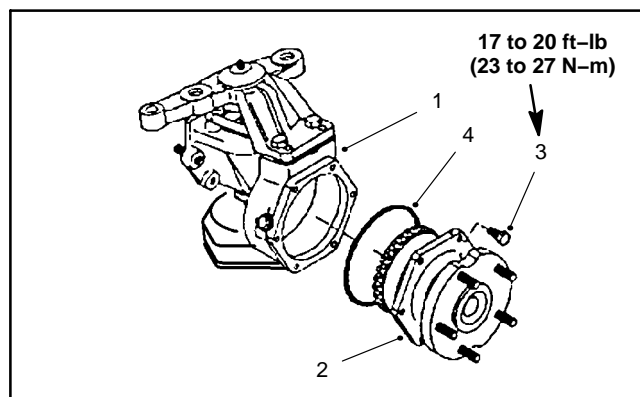

Figure 24
1. Remove the axle cover mounting screws. Remove the axle cover from the axle case as an assembly (Fig. 24).